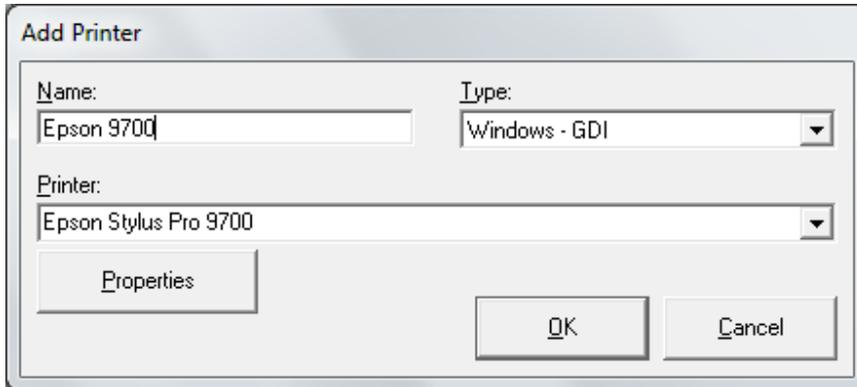

Fig 3-6
1. From the Manage Printers interface, highlight an existing printer and click [Edit] to open the Add Printer window (Fig 3-6).